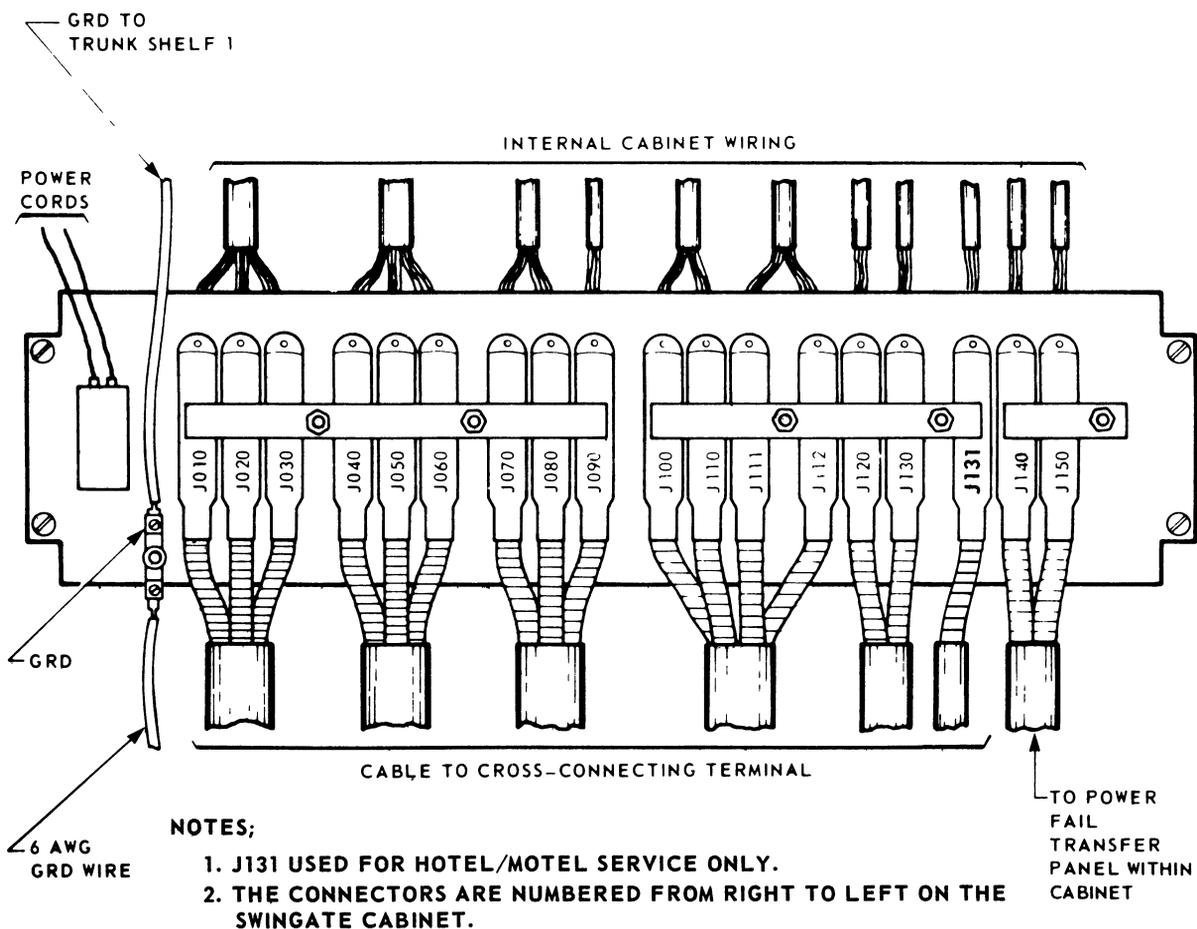

Fig. 33 - Distribution of Cables From the Connector Panel
5.07 The internal cabinet wiring from the equipment shelves is terminated on connectors located on a connector panel (Fig. 33). The connector-cables connections described in Chart 23, extend the wiring from the panel to a cross-connecting terminal. A typical terminal layout is shown in Fig. 34.
5.09 The system must be connected to an approved ground. Use a 10-AWG wire (when cabinet is located 10 feet or less from the approved local ground) or a 6-AWG wire (when cabinet is located more than 10 feet from the approved ground) from the ground lug on the connector panel (Fig. 33, 34 and 35). All external equipment connected to the PULSE 120 EPABX must use this approved ground when required.